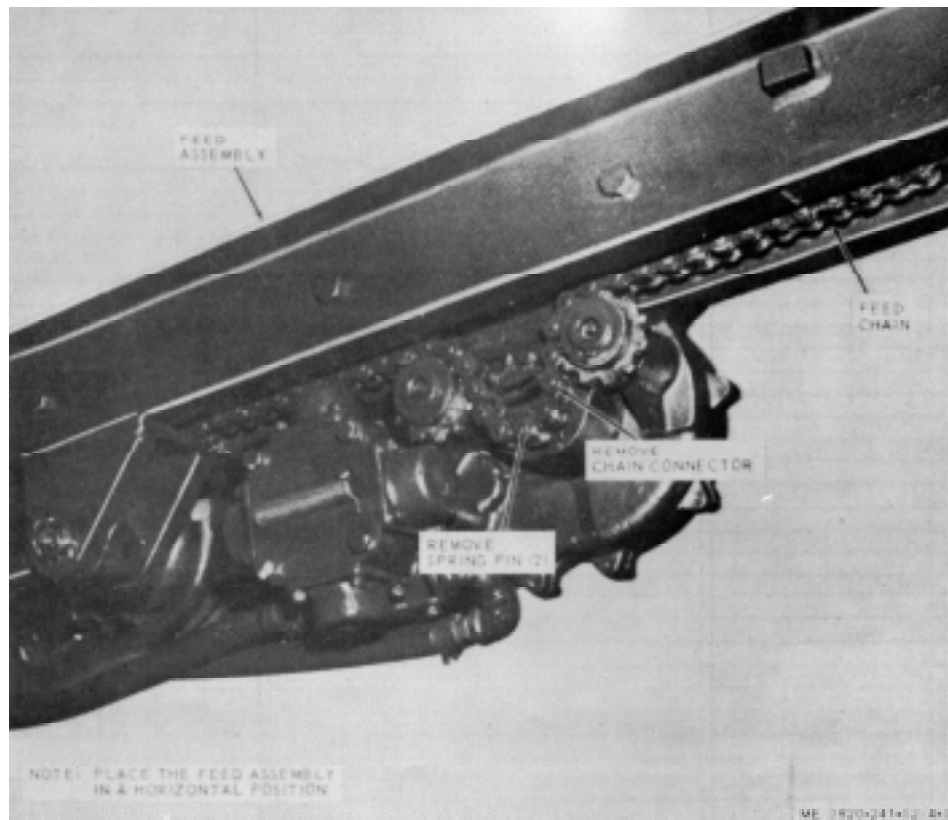

Figure 4-14. Feed chain, removal and installation.
- (1) Place the boom assembly in the horizontal position.
- (2) Remove the feed chain as illustrated in figure 4-14.
the feed transmission and install the feed chain as illustrated in figure 4-14.